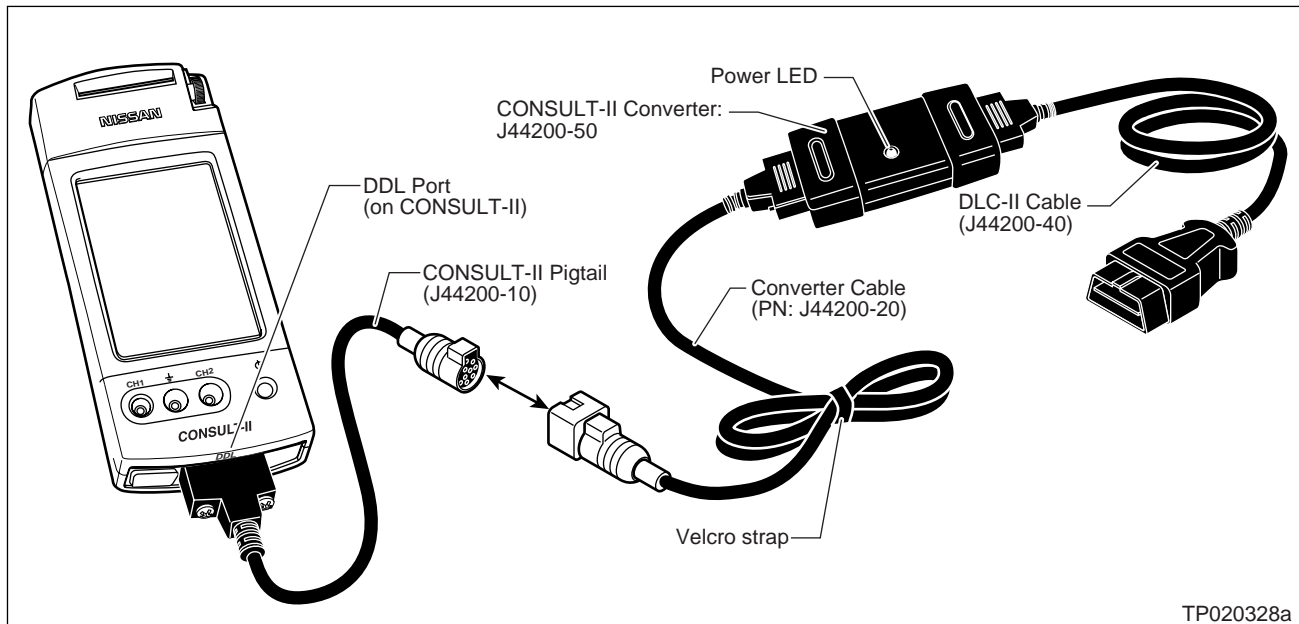

Figure 10
14. Connect CONSULT-II to the vehicle using the DLC-II cable with black Converter Box (see Figure 10 on next page).
- Make sure all other DLC-II cable connections shown in Figure 10 are connected properly.
- Nissan requires the use of essential tools shown in Figure 10 when performing ECM reprogramming.
- d. The CONSULT-II Converter (J44200-50 / black box) is not working correctly (see Figure 10 on page 10).